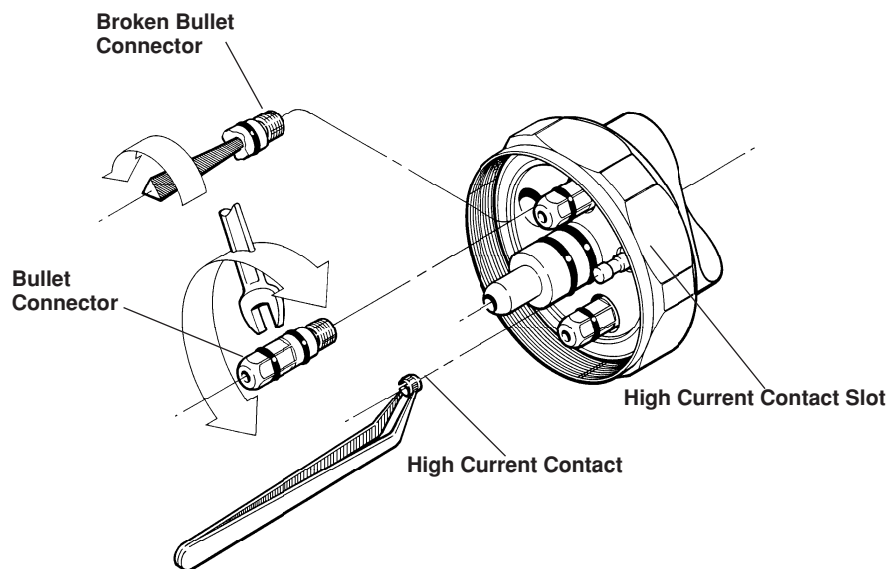

Figure 5-9 Bullet Connector and High Current Contact Removal and Replacement
1. If the bullet connector is not broken, use 9/32-inch nut driver to remove the connector (Figure 5-9).
1. Grab the high current contact with the tweezers and pull off stud (Figure 5-9).